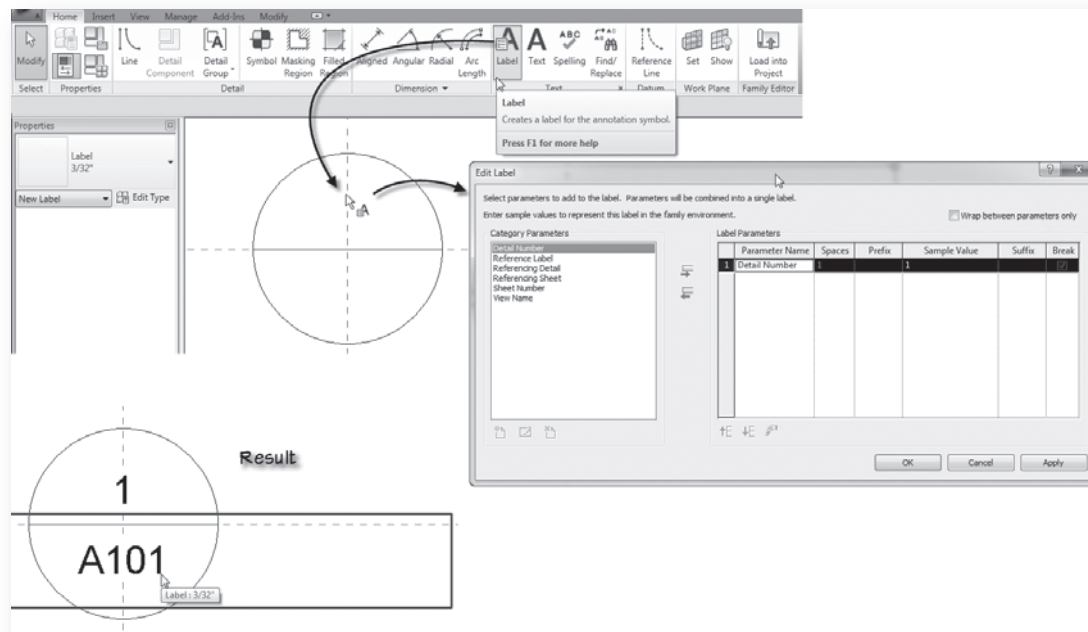

FIGURE 10.33 Add Labels to the tag
- In the “Edit Label” dialog, click Detail Number and then click the Add parameter(s) to label icon in the middle (see Figure 10.33).